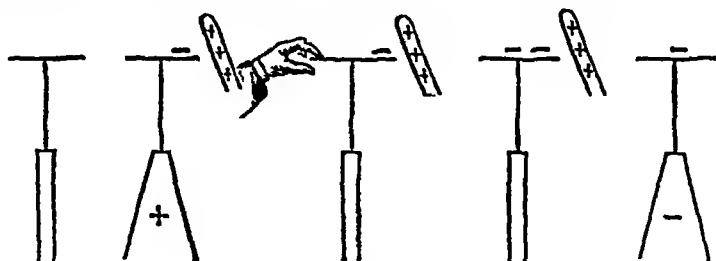

FIG. 175
**To charge an Electroscope by Induction** — (1) (fig 175) The uncharged leaves hang side by side. (2) Bring a rod charged positively near the disc. The disc becomes negatively, and the leaves positively electrified by induction, and diverge. (3) Touch the disc with the finger, the disc, the leaves and the finger become negatively charged, the body and earth positively, the positive electrification of the rod neutralises the equal amount of negative electrification on the electroscope, and the leaves collapse. (4) Remove the hand,